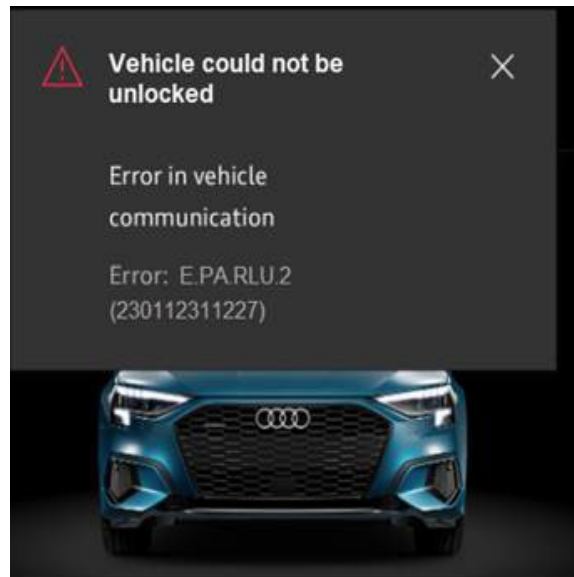

Figure 2: Message for Android devices
- PA.RLU.2 (Android - figure 2).